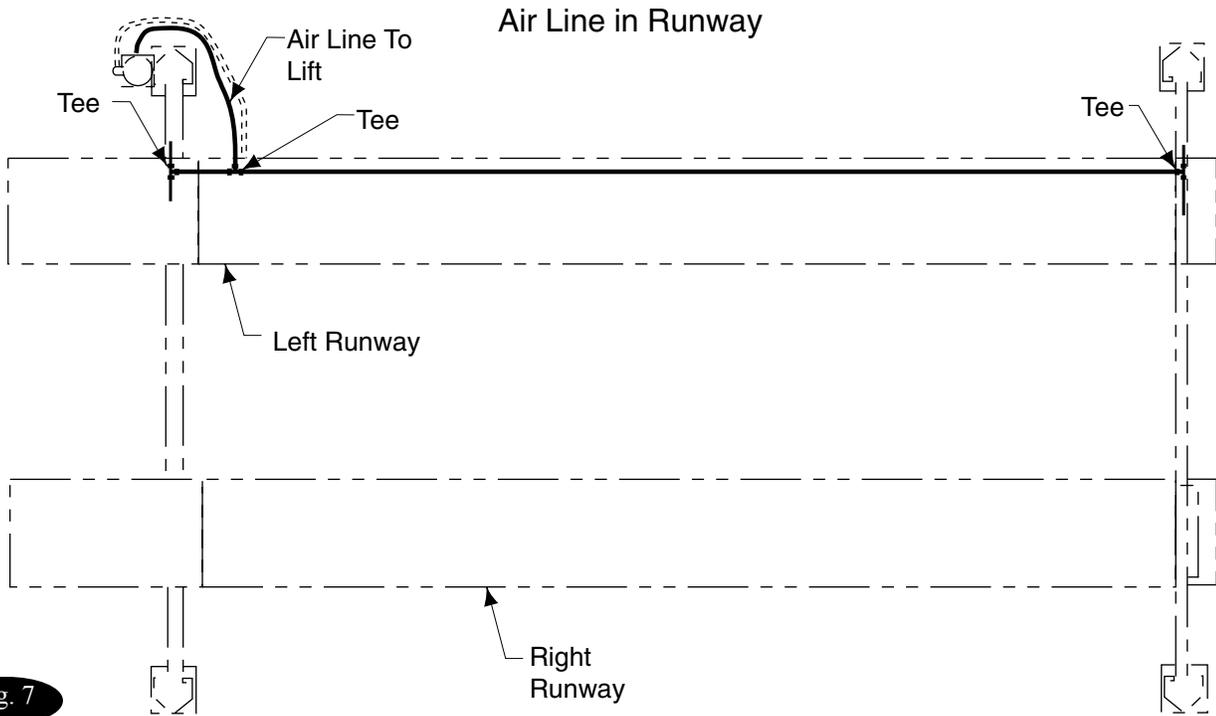

Fig. 7
- Insert each end of the left runway's $\frac{1}{4}$ " air line into the Tee's connecting the locking latch air cylinders in each yoke, Fig. 7.